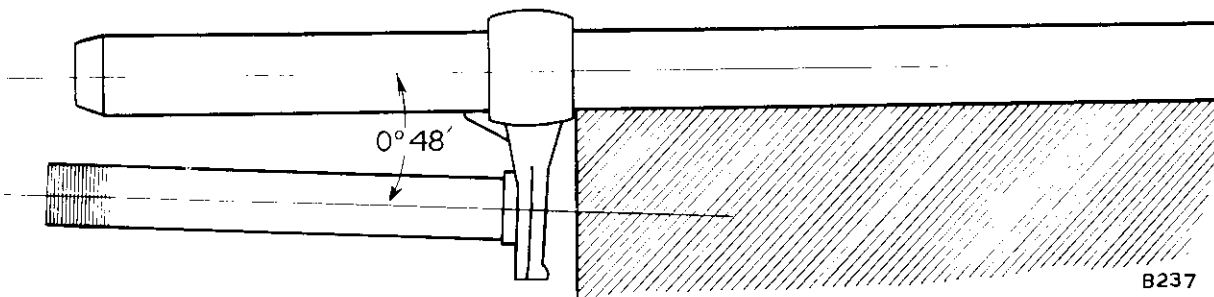

Fig G6. Showing the correct angle and positioning between the stanchion and middle lug and stem
- (3) When the stanchions and middle lug assembly has been trued, the top lug can be used to check the position of the stem relative to the middle lug. For this purpose, the distance between the middle lug and top lug should be the same on either side and to achieve this the stanchions should be set in the middle lug to the figure given in Fig. G6. When the top lug is fitted the stem should be central in the top lug hole. If it is not a long tube can be placed over the stem and used to press the stem in the correcting direction. When this is achieved, re-check the fork assembly to ensure that the original alignment has not been adversely effected.